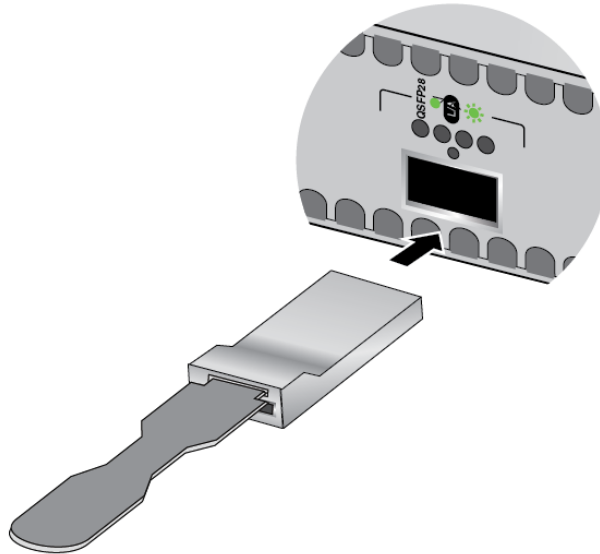

Figure 120. Installing 100Gbps QSFP28 Transceivers in XEM2-1CQ Line Cards
- ❑ 100Gbps QSFP28 transceivers for XEM2-1CQ Line Card: refer to Figure 120.